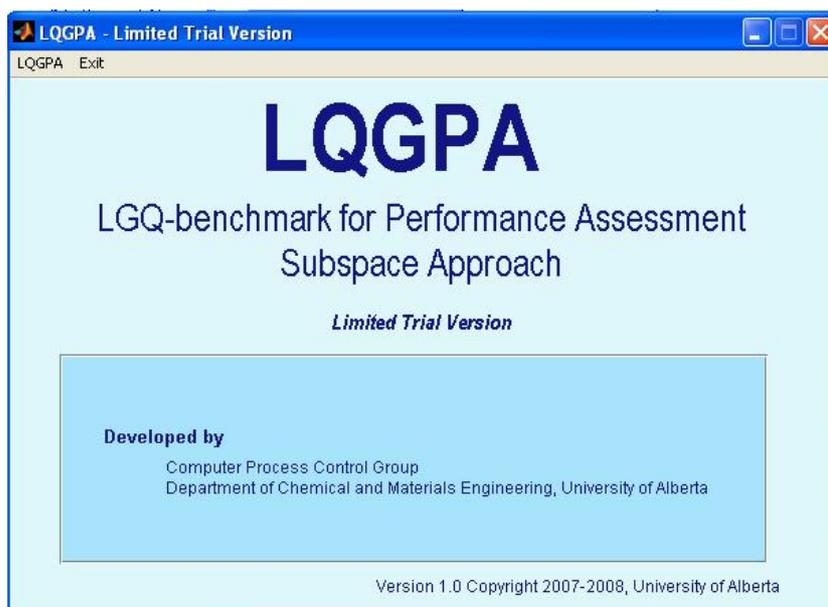

Figure 1: The First GUI that appears
- 3) At the command prompt, type “>>main\_LQGPA” to start the toolbox. The GUI shown in Figure 1 should appear.